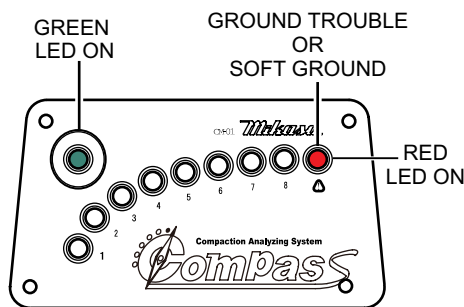

Figure 27. Ground Trouble or Soft Ground
1. For a case of unstable ground or soft ground (soil containing high clay content) for which the use of this machine is not suitable, only the green and red LEDs will be on (Figure 27), with no yellow LED's on.